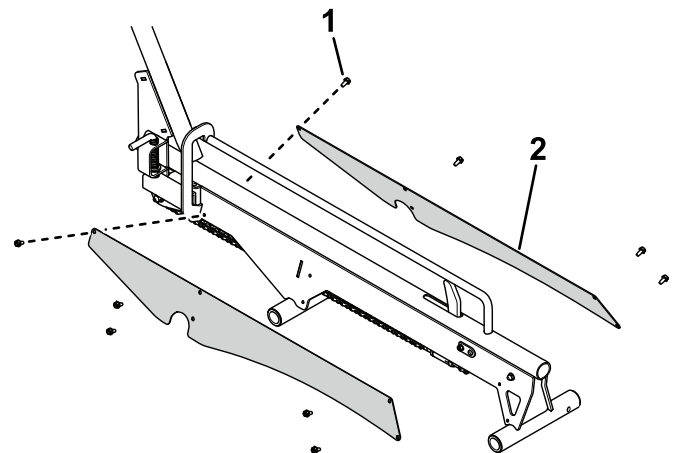

Figure 8
10. Use 10 hex-head screws to secure the chain covers to the ramp assemblies (Figure 8).